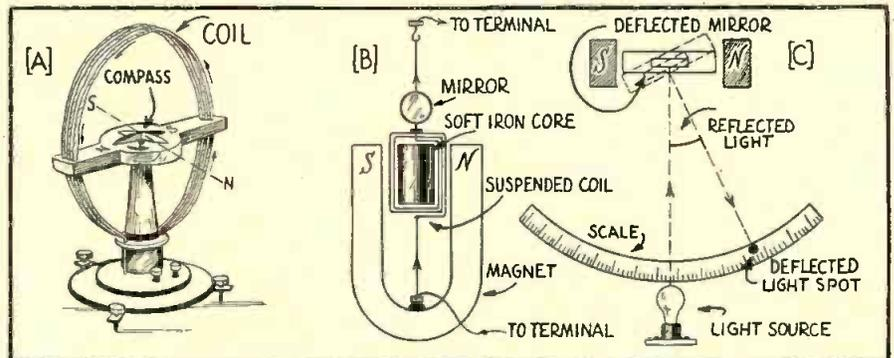

Figure 1. (A) Simple form of tangent galvanometer. (B) D'Arsonval galvanometer movement. (C) Light beam arrangement for amplifying movements of the mirror.
Probably the simplest type of magnetic current indicating and measuring instrument, is the tangent galvanometer shown at (A) of Figure 1. A description of the construction and action of this old form of instrument follows:
The tangent galvanometer consists of a vertical coil of insulated copper wire, with a small permanent-magnet compass needle mounted in a horizontal plane at its center, as shown in (A) of Figure 1. Since this compass needle is free to rotate in a horizontal plane, it will point exactly *north* and *south* in the earth's magnetic field when no current is flowing through the coil. To use the galvanometer, the coil (with no current flowing) is first turned around so its plane lies directly in line with the compass needle, i.e., pointing in a north and south direction. When this is done, the compass needle will be directly over the "zero" mark on the scale mounted underneath it.
Now the current to be measured is sent through the coil of wire. This produces, inside of the coil, a magnetic field whose strength depends upon the number of turns of wire and the current. With the current direction shown at (A) of Figure 1, an N pole is produced at the front face of the coil and an S pole is produced at the rear, as marked. The S pole of the coil coincides with the S pole of the compass needle and makes it tend to move around in a clockwise direction, against the force of attrac-